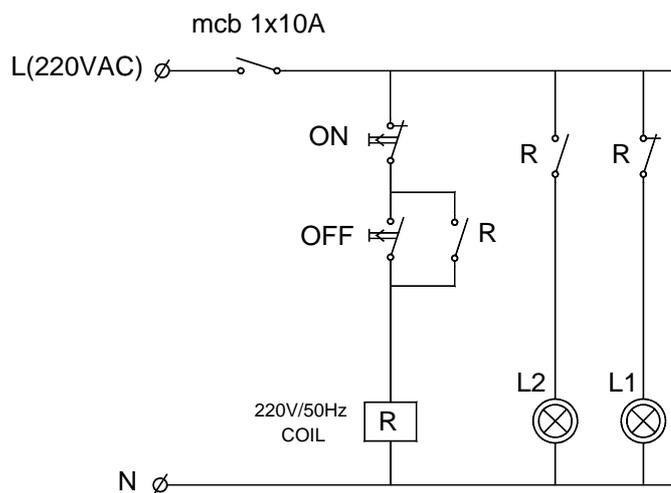

Fig. 1.3 Energizing and de-energizing relay using on-pushbutton and off-pushbutton
1. Assemble the components of the circuit shown in figure 1.3 the control board and make the required wiring and connections.